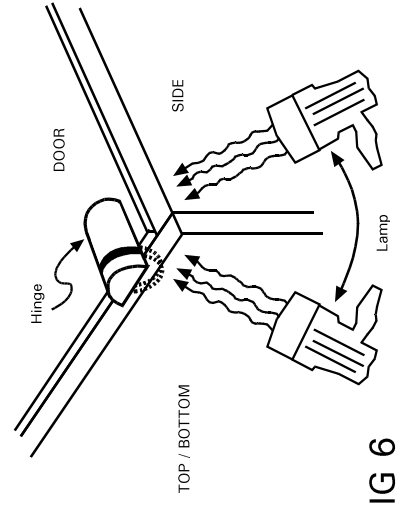

FIG 6
- Hold the hinge between thumb and forefinger securely and place in the desired position on the carcass. Exert the necessary diagonal pressure to obtain suitable bonds on both faces prior to introducing the UV light source so that it cures the faces simultaneously to obtain the necessary pre-cure approx. 15 sec (see Fig. 6). Repeat the above procedure on the other hinges and ensure that secure bonds are obtained before door operation is tested and any bonding liquid/residue is removed.